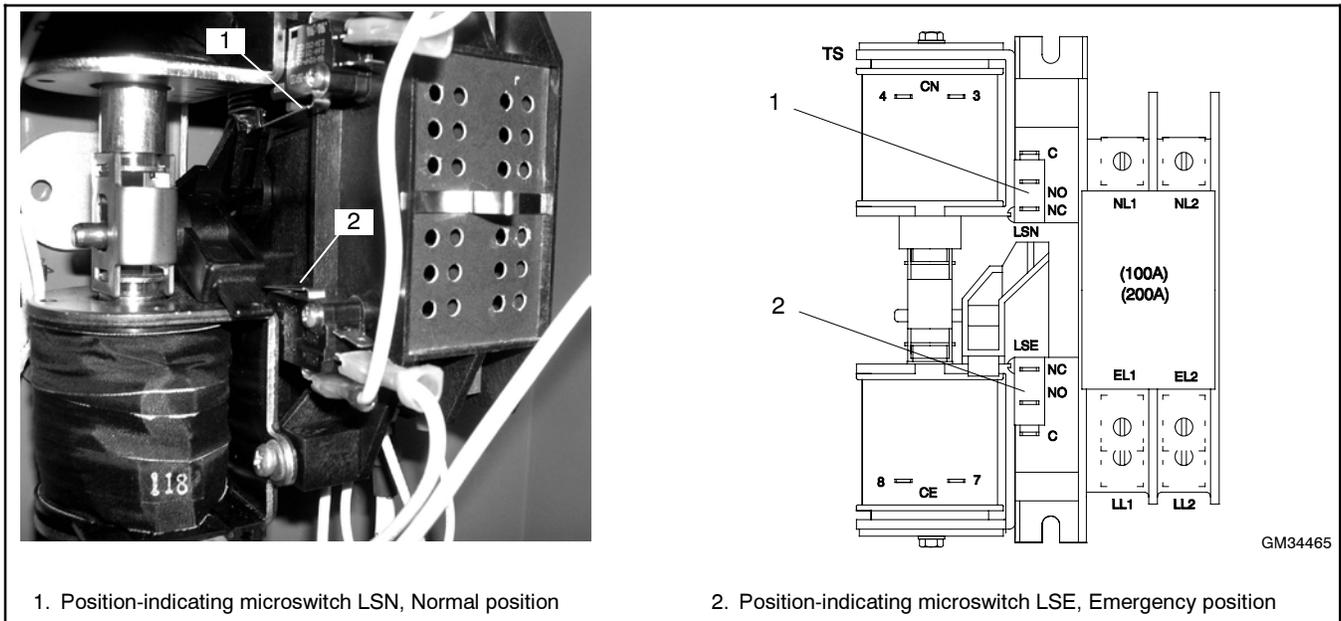
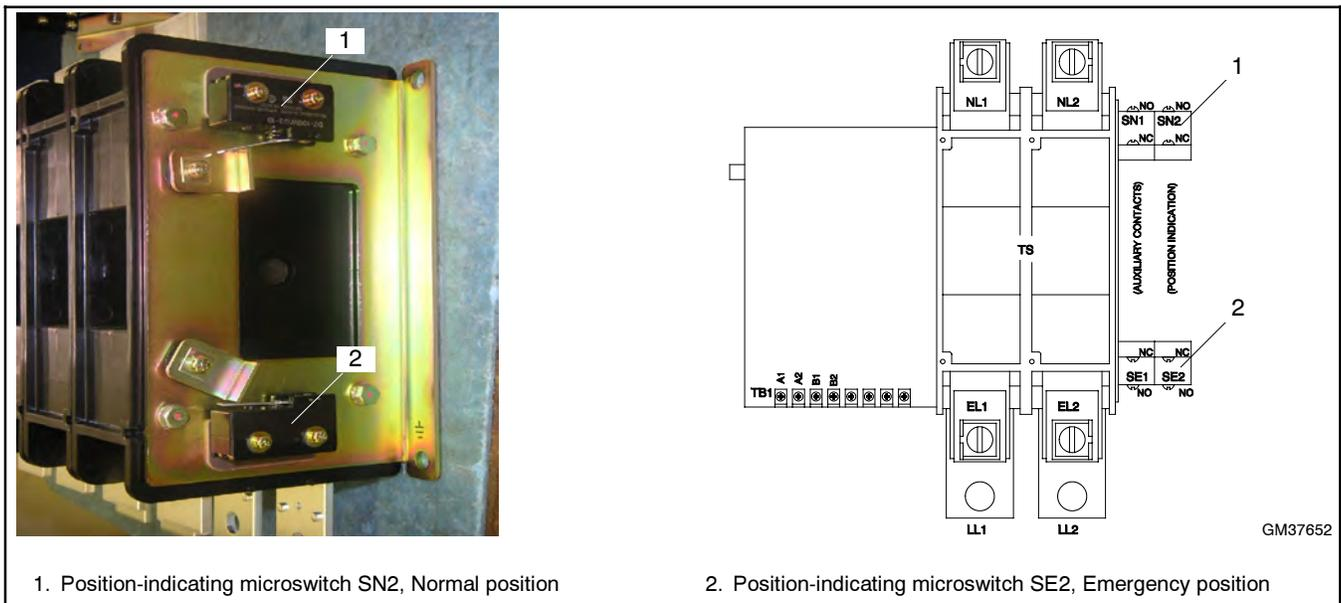

Figure 5-13 Position-Indicating Microswitches, 100/200-Amp Models
Figure 5-14 Position-Indicating Microswitches, 400-Amp Models
5. See Figure 5-13 or Figure 5-14 for the position-indicating microswitch locations.